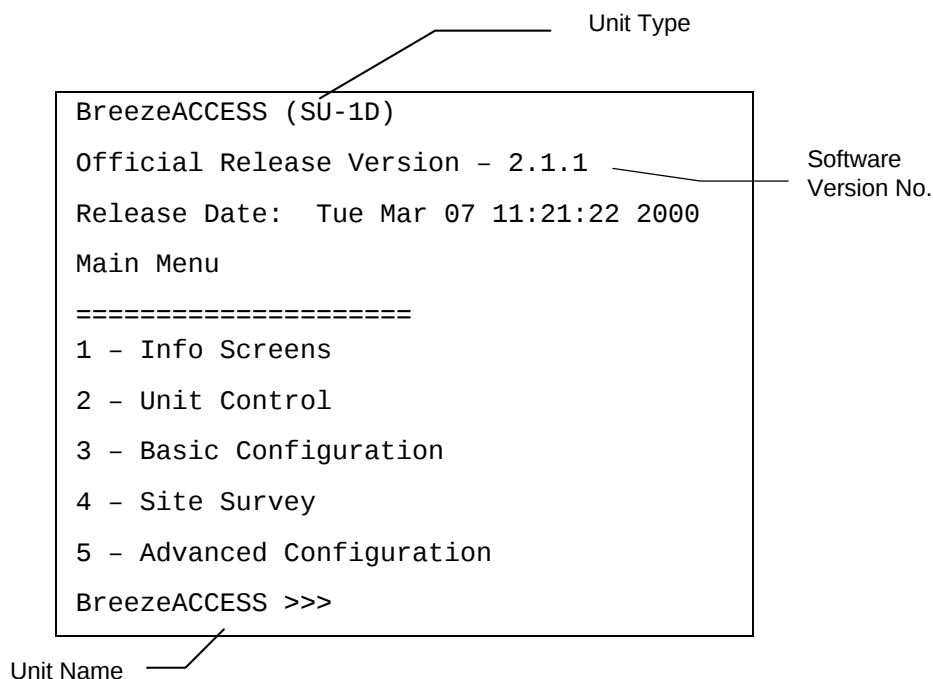

Figure 3-1. Main Menu
3. Press **Enter**. The *Select Access Level* menu appears. Select the access level according to your authorized access level. You will be requested to enter your password. After entering the correct password press enter. The main menu appears (refer to Figure 3-1).